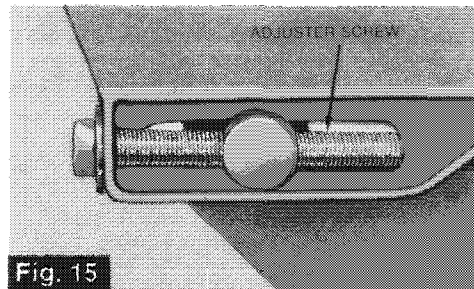

Fig. 15
2. Adjust to proper free play by turning the adjuster screws, clockwise to tighten, counter-clockwise to slacken. (See Fig. 15). Make sure both sides are adjusted equally.